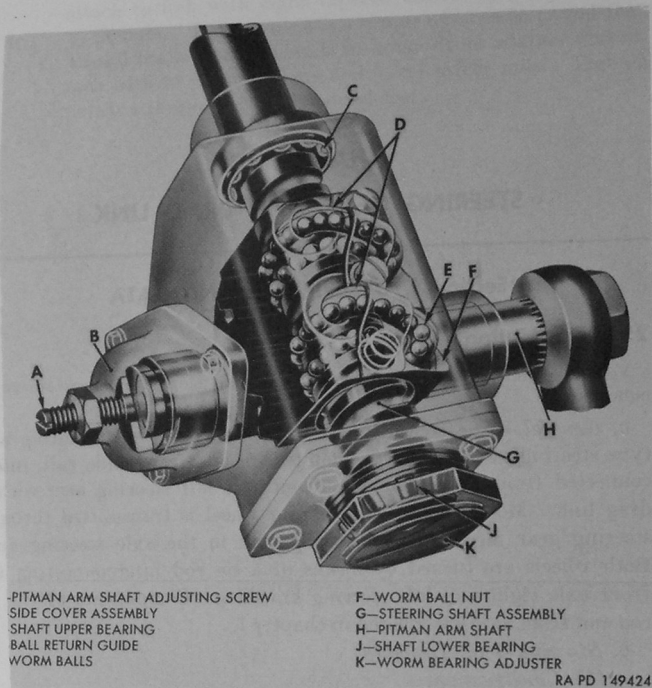

Figure 185. Phantom view of steering gear mechanism.
*Note.* Key letters noted in parentheses are in figure 185 unless otherwise indicated.
- (2) *Operation* (fig. 185).—As steering wheel turns steering shaft with integral worm, worm ball nut travels on worm as with an ordinary screw thread. Balls, circulating in helical grooves of ball nut and shaft worm, travel within their separate circuits. A screw action, with rolling instead of sliding contact, is obtained. The movement of worm ball nut teeth in contact with the sector teeth on Pitman arm shaft turns the Pitman arm shaft. The movement of the Pitman arm, attached to the arm shaft, turns front wheels by means of the interconnecting drag link.